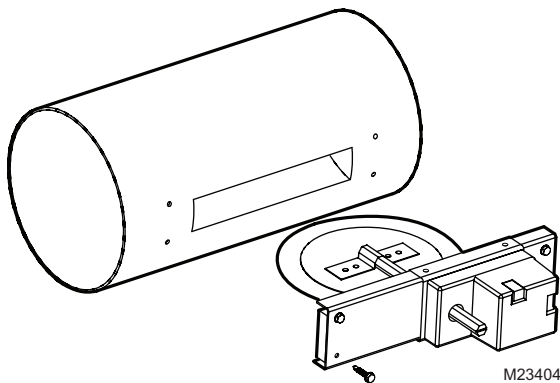

Fig. 3. Inserting RRD damper into duct.
4. Slide the damper into the duct and secure it with the four supplied self-drilling mounting screws. Be careful to avoid over-tightening the screws as the duct may be pulled out of round. See Fig. 3.